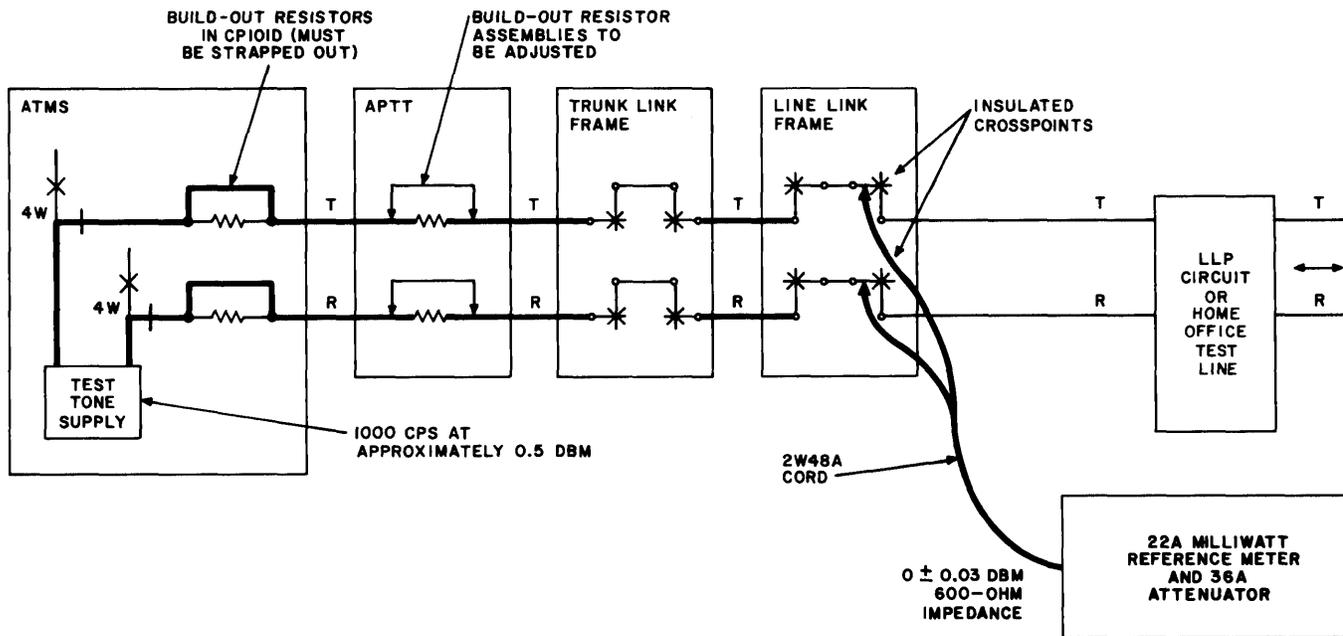

Fig. 6—Test Setup for Adjusting Build-Out Resistors for 2-Wire Access LLP Circuits or Home Office Transmission Test Lines
C. 2-Wire Line Link Pulsing Circuits and Home Office Transmission Test Lines in the Same Marker Group (Fig. 6)
LLP in the Same Marker Group (Fig. 6)**